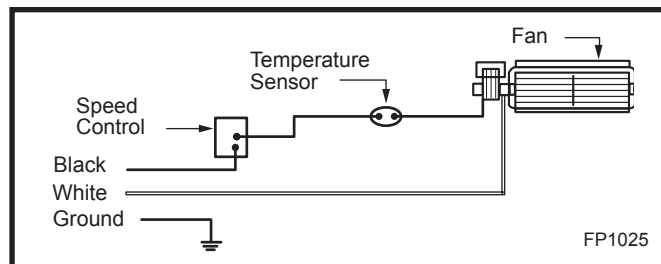

Fig. 91 FK24 fan wiring.
1. Slide fan assembly from the left side into the fireplace opening, line up mounting holes with screw studs on back of fireplace and fasten with #10 - 24 hex nuts. (Fig. 91)
First connect ground wire to ground stud located on the base of either box. Black wire from supply should connect to the variable speed switch. Alternate speed switch wire connects to temperature sensor. Alternate lead from sensor connects to fan. Alternate fan lead connects back to the white supply wire. (Fig. 91)